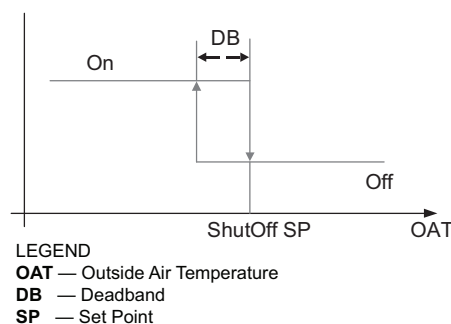

Fig. 63 — Hysteresis Settings
Hysteresis setting (DB) defaults to 2°F (–16.6°C). See Fig. 63.